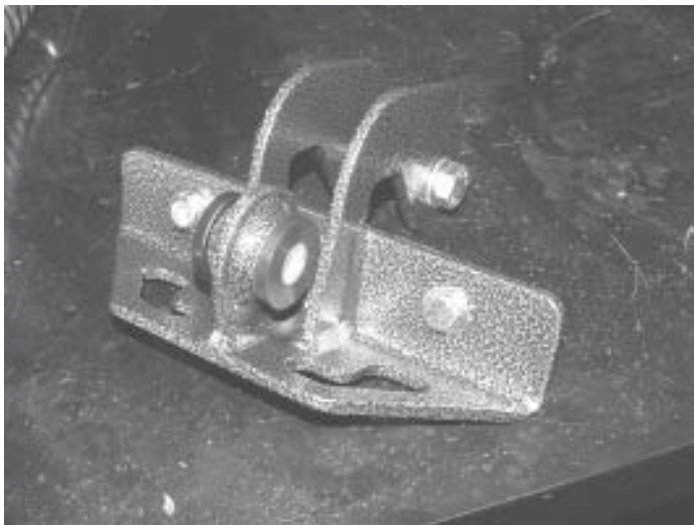

Fig. 17
A. Install bushings (201019) and sleeves (131) into the torsion bar drop brackets (201010). **Fig. 17**